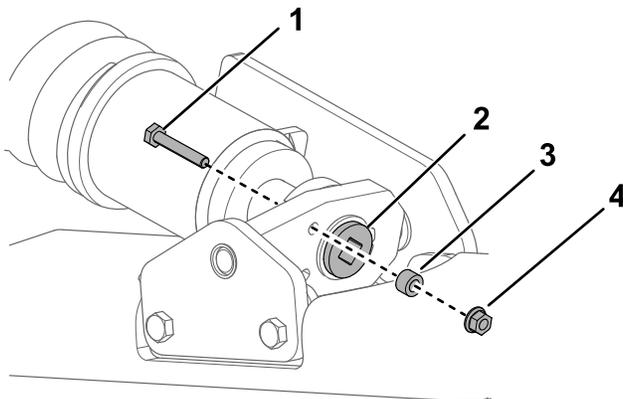
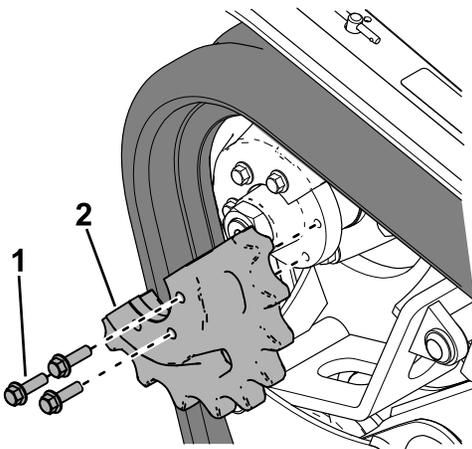

Figure 57
**Figure 61**
4. Remove the locking bolt, spacer, and nut (Figure 57).
6. Align the closest notch in the tension screw to the locking-bolt hole and secure the screw with the locking bolt and nut (Figure 57).
7. Remove the locking bolt, spacer, and nut (Figure 57).
8. Using a 1/2-inch drive ratchet, release the drive tension by turning the tensioning screw clockwise (Figure 57 and Figure 61).
- Remove the 3 bolts securing the sprocket half that is not engaged with the track (Figure 61).
- Wrap the new track around the front wheel (Figure 61).
- Push the track under and between the road wheels and wrap it around the frame (Figure 61).